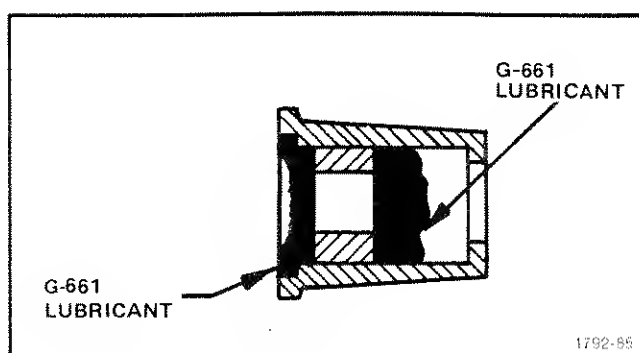

Fig. 5-32. Lubrication of ZERO REFERENCE knob.
28. Installation of the ZERO REFERENCE knob and the zero reference CHECK pushbutton (see Figs. 5-32 and 5-33)
1. Apply G-661 lubricant to the ZERO REFERENCE knob as shown in Fig. 5-32.